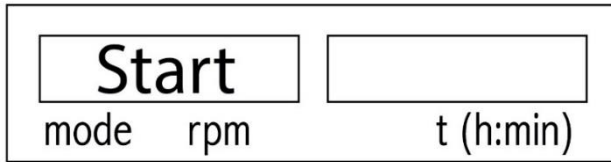
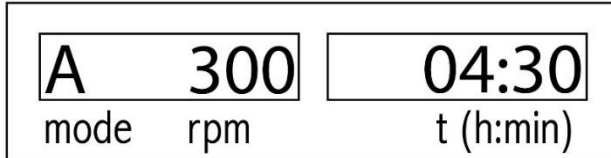

Figure 8: Operating Mode A – moment of rotating operation start
Figure 9: Operating Mode A – device is in rotating operation
- Once the settings become set, by pressing the left rotary knob, the device will start working (figure 9) at the saved speed and time settings after displaying "Start" word (figure 8) on the display.